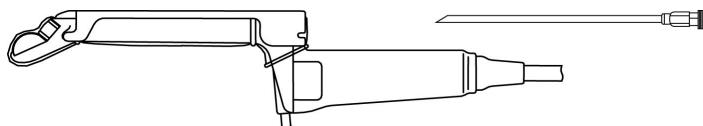

Fig. 4
- 3) Push the other end of the Sterile Puncture Adapter until fix the dents of the Sterile Puncture Adapter to the projection on the probe. (See Fig.4)